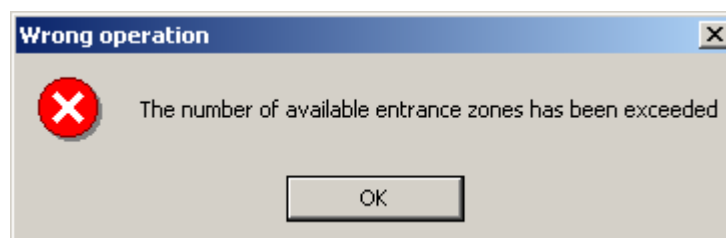

Figure 39
An Entrance Zone can be added to the console database only in such case when the total number of programmed Entrance Zones doesn't exceed the maximum number of zones which can be programmed (32). Otherwise, trying to add a new Entrance Zone causes outputting a wrong operation warning (see Figure 39):